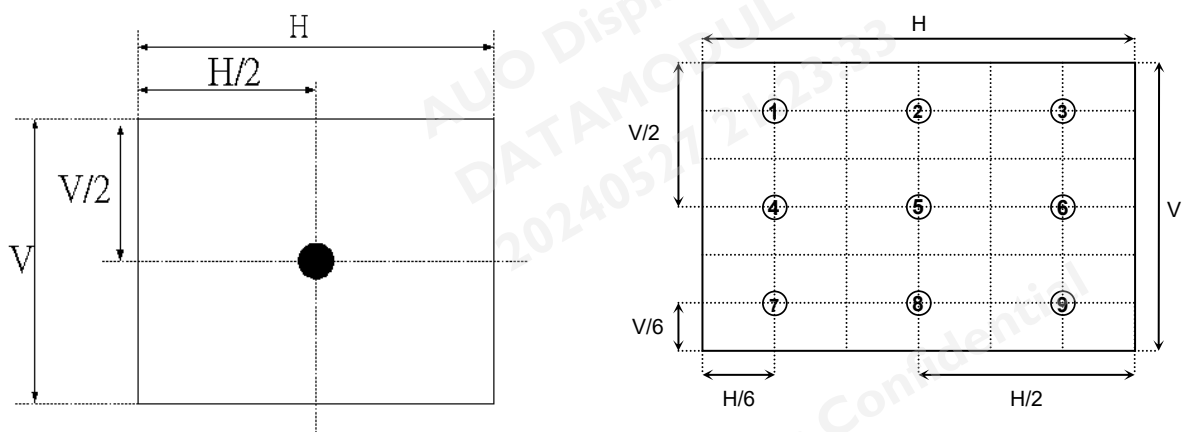

Fig. 3
3. The variation in surface luminance, δ_{WHITE} is defined (center of Screen) as (**Fig. 3**):